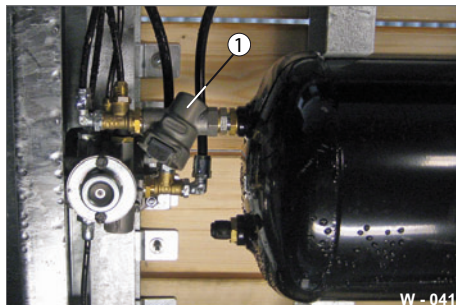

Fig. 41 Line filter for compressed air system
- Press the cover (Fig. 41/8) downwards with a screwdriver and pull out the bracket (Fig. 41/9).
- Remove both springs (Fig. 41/3 & Fig. 41/6), the seal (Fig. 41/7), the intermediate plate (Fig. 41/5) and the filter (Fig. 41/4).
- Clean the filter housing (Fig. 41/2) with a clean, dry cloth.
- Clean the filter (Fig. 41/4). Replace the filter in the event of major contamination or damage.
- Check if the seal (Fig. 41/7) is present or damaged. Replace damaged seals.
- ▶ Set the small springs (Fig. 41/6) on the latches of the intermediate plate.
- ▶ Set the cover (Fig. 41/8) on top.